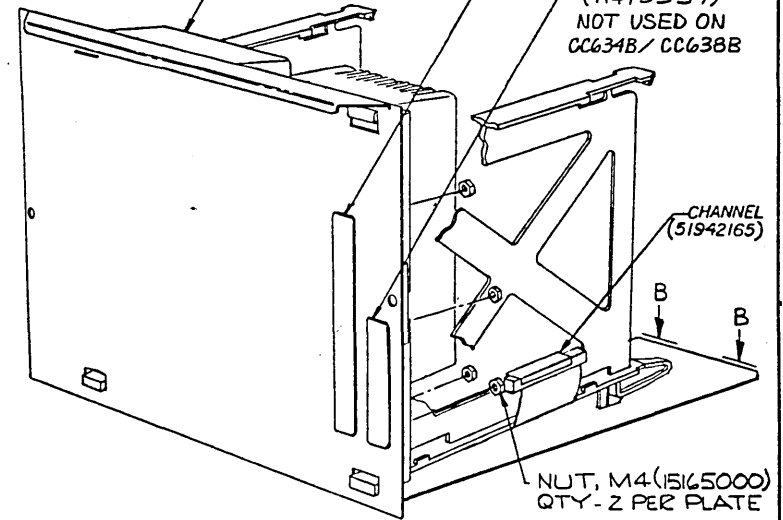

FIGURE 4. CONNECTOR COVER PLATE INSTALLATION
2. REMOVE COVER PLATE AT 1/F 4 POSITION. REFER TO FIGURE 4.
2. REMOVE AND DISCARD CHANNEL (51942185 SHOWN IN FIGURE 4) TO RELEASE END OF 50 PIN RIBBON CABLE.